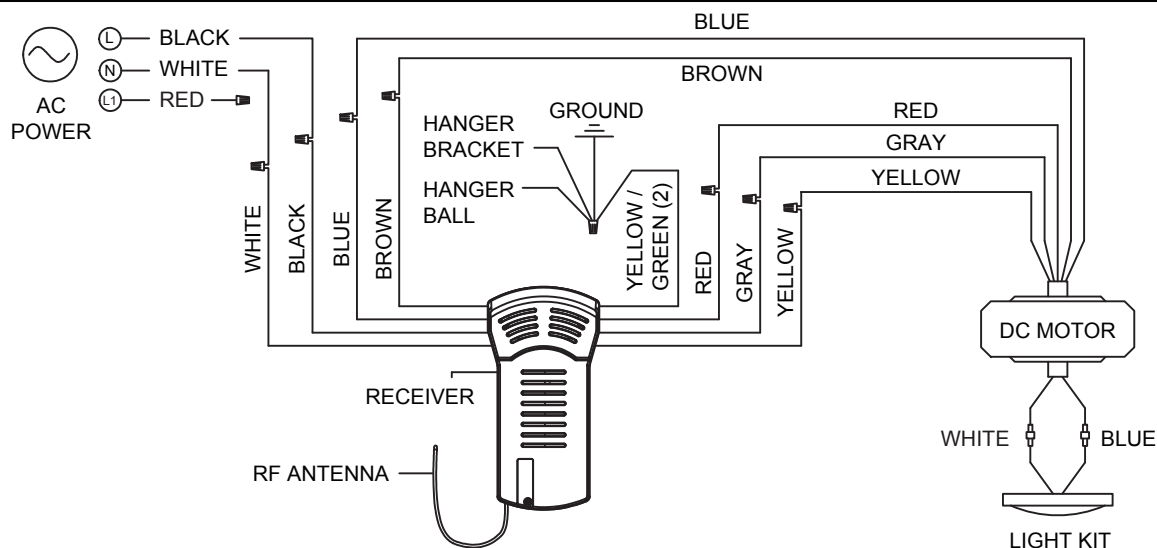

Figure 4
- ☐ 4. Carefully lift the fan and seat the downrod/hanger ball assembly onto the hanger bracket that was just attached to the outlet box. Be sure the groove in the ball is lined up with tab on the hanger bracket. (Figure 4)
- ☐ 5. Attach the safety cable to ceiling support cable. Slide cable clamp and washer onto safety cable (from fan). Place the end of cable through the loop of ceiling support cable. Pull as much cable through loop as possible. Feed end of cable into clamp hole and firmly tighten screw. (Figure 4)
- ☐ **3.** Connect wires using connectors as shown in Figure 4.